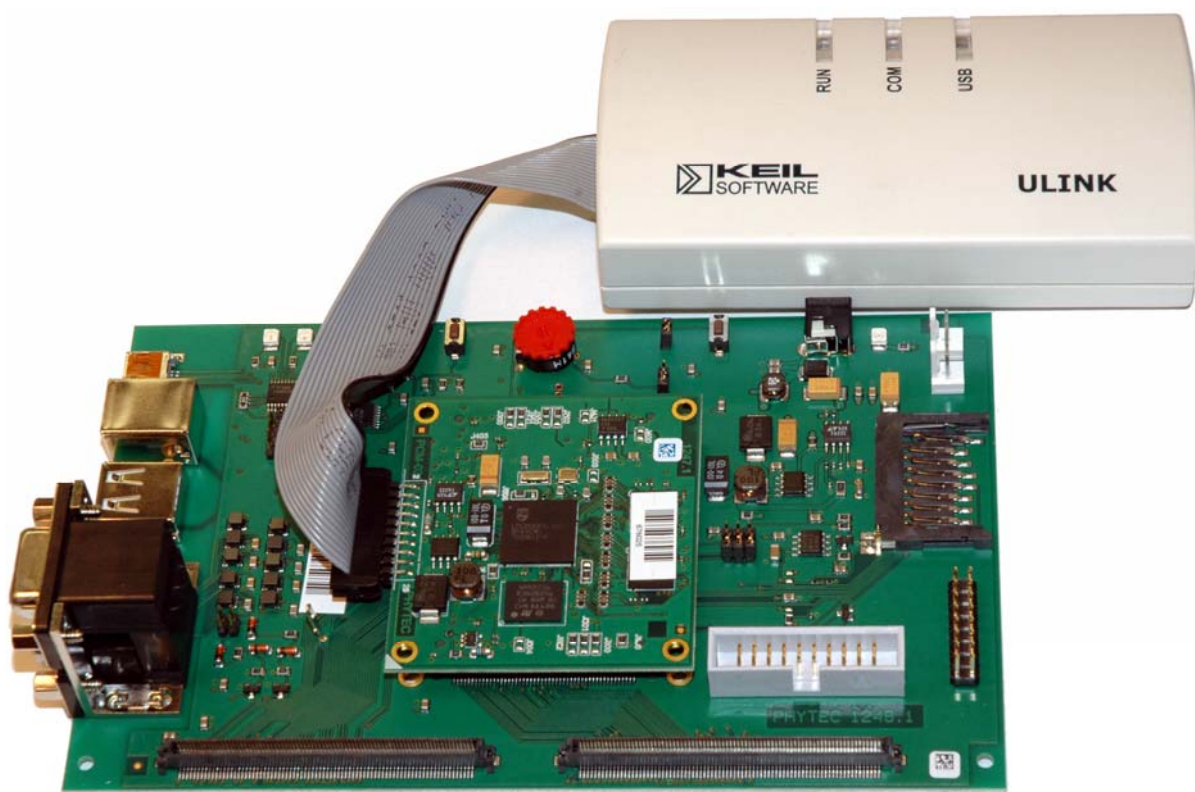

Figure 3: ULINK Connected to the phyCORE-LPC3180 Rapid Development Kit
- Mount the phyCORE module, pins-down, onto the Carrier Board's receptacle footprint (X200) as shown in Figure 3 below. Ensure that pin 1 of the module matches pin 1 of the receptacle on the Carrier Board. The JTAG PCB edge connector on the phyCORE-LPC3180 module will point towards the DB-9 connectors on Carrier Board.